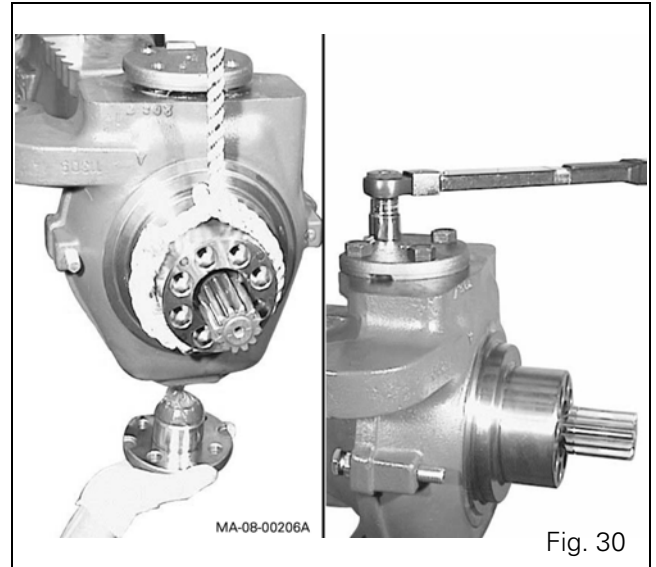

Fig. 30
- 29.** Attach the swivel housing assembly with a sling. Lubricate the seal lip and protect the splined end of the shaft by wrapping adhesive tape around it to protect the seal from damage. After assembly, completely remove the adhesive tape. Fit the swivel housing on the axle beam. Install the two pivot pins, one upper and one lower, and tighten the screws to the required torque (see chapter 8) using a torque wrench (Fig. 30).